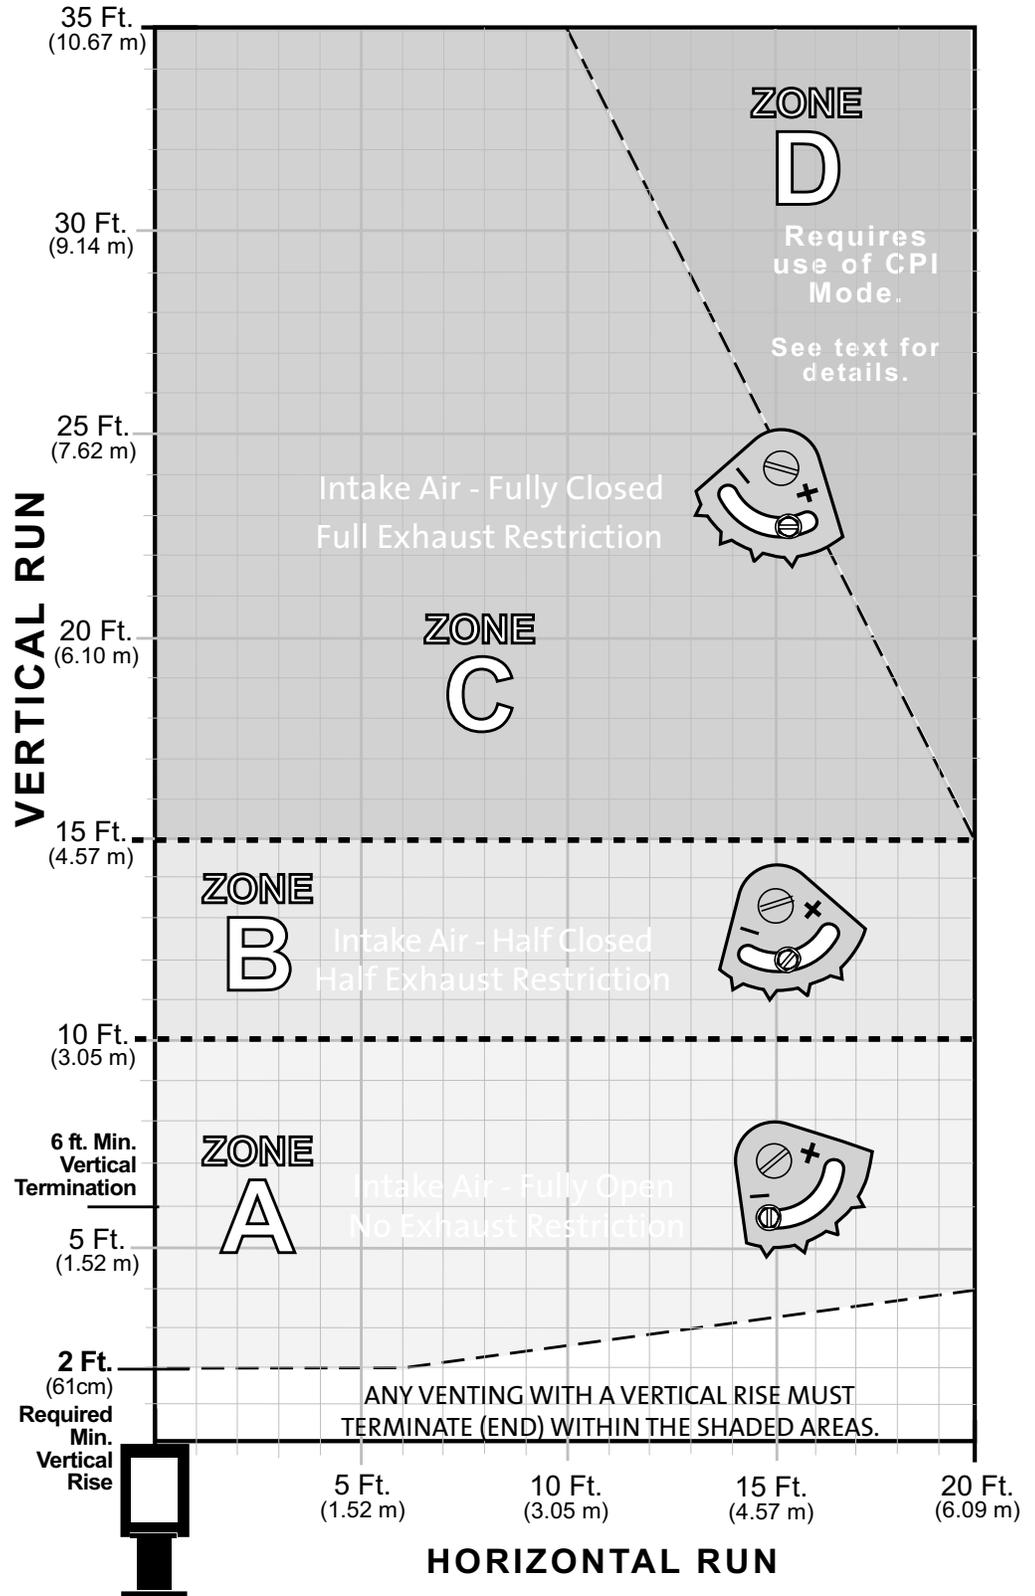

Figure 17. Vent Termination Diagram.
1. Use the restrictor zone guidelines in the Vent Window Diagram, fig. 17. In masonry chimney, a fireclay liner or listed steel liner, must be contained within the entire length of the chimney.
Use the Vent Termination Diagram, fig. 17, to determine which zone your vent termination falls within and make the appropriate exhaust and air intake setting adjustments. Use these settings as general guidelines to start from. The final settings will ultimately be determined by the individual characteristics of your particular installation. There are no hard and fast rules.
2. Loosen the locking screw and turn the restrictor pivot plate to the appropriate indicator point as specified in the vent window diagram, figure 17. After the burner has been operating for 15 minutes, make any further adjustment in 1/8” increments until the desired flame picture is achieved. **Do not exceed the fully closed setting as shown in fig. 15.** Operate the burner for 10-15 minutes between additional adjustments.